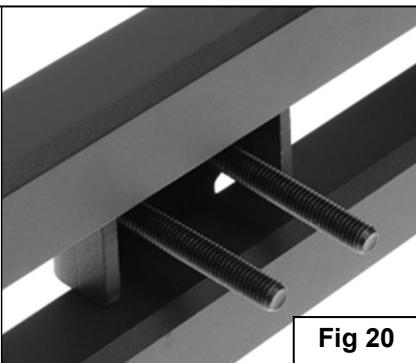

Fig 20
5. Select the Driver Side Bar. Slip (2) M10X1.5-75 Carriage Bolts into each 2-Hole Support Brackets ,and insert the 2-Hole support bracket into the Driver Side Bar.(Fig 20). Carefully position the Bar onto the (4) Mounting Brackets. **IMPORTANT:** Do not slide the Bar on the Brackets or damage to the finish may result. Attach the Driver Side Bar to the Mounting
12. Repeat **Steps 5 & 6** to install the passenger Side Step, (**Figure 20,21**).